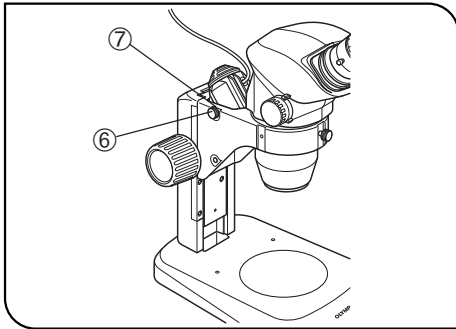

Fig. 6
4. Remove the clamping screw ⑥ and washer ⑦ from the IHE holder.
- ⑤ As other parts are not used, retain them carefully so as not to lose them.
5. Using only the clamping screw and washer, attach the LSGA illuminator onto the top of the standard stand as shown in Fig. 6.